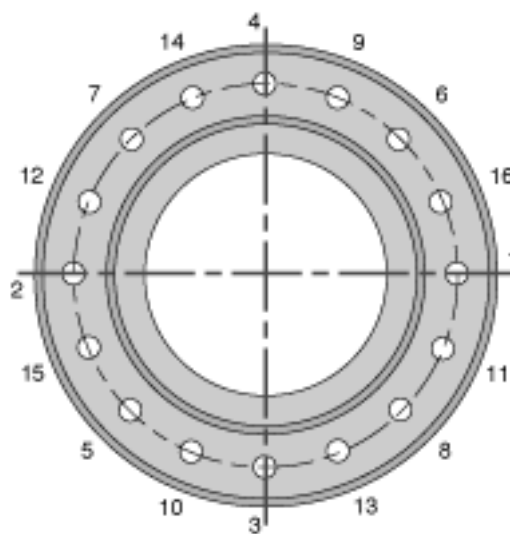

Fig.4 Tightening Sequence
2. As the first torquing step, tighten the bolts in a crisscross sequence as shown in Fig. 4. Using a torque wrench with 20% of the final torque listed in the table on the other side of this sheet, taking care that points (I) and (II) are satisfied at all times.